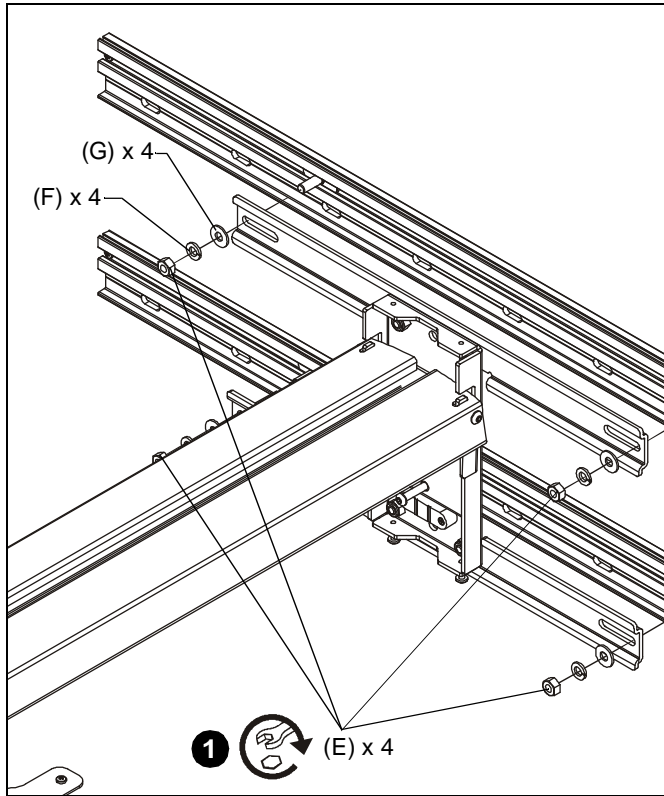

Figure 5
1. Attach short throw wall mount to slide nut studs in slide brackets using four 1/4" spacers (G), 5/16" split washers (F), and 5/16" hex nuts (E). (See Figure 5)